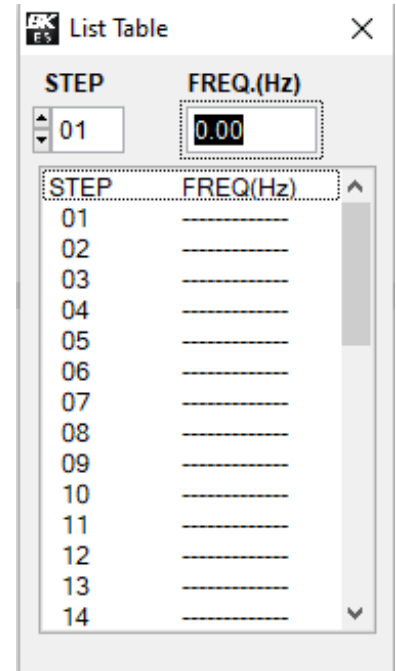

Figure 4.2 Software List Mode
- **List:** Create a custom sweep. A separate window will open allowing the user to customize up to 40 steps in a sweep. See figure 4.2